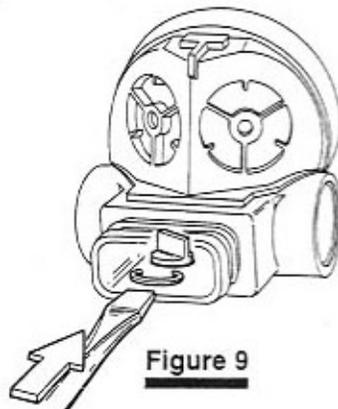

Figure 9
3. While holding the vane switch in place with your finger, turn the box bottom (item 3) over as shown in figure 9. Place the "C"-clip (item 4) with its flat side facing up into the air outlet boss of the box bottom. While still holding the vane adjustment switch in place, push the open-end of the "C"-clip up against the retaining ring groove on the vane. Next, using a medium flat blade screwdriver, push the "C"-clip into the groove until it snaps in place (figure 9). Make sure the "C"-clip (item 4) is fully seated in the groove.
4. Install a new disc (item 5) into the retainer (item 6). Set this assembly aside.
5. Lightly lubricate the O-ring (item 7) and install it in the groove provided for it on the crown (item 8). Set this assembly aside.
6. Lightly lubricate the O-ring (item 9) and install it on the valve body (item 10).